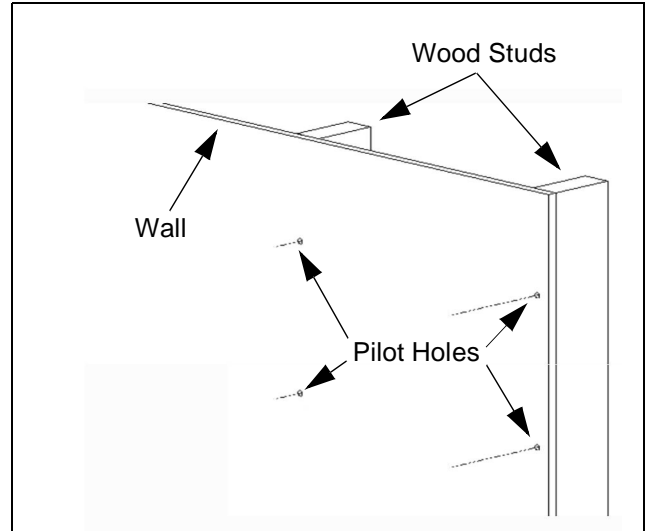

Figure 2
6. Drill four pilot holes using a 7/32" drill bit. Make sure pilot holes are straight (See Figure 2).